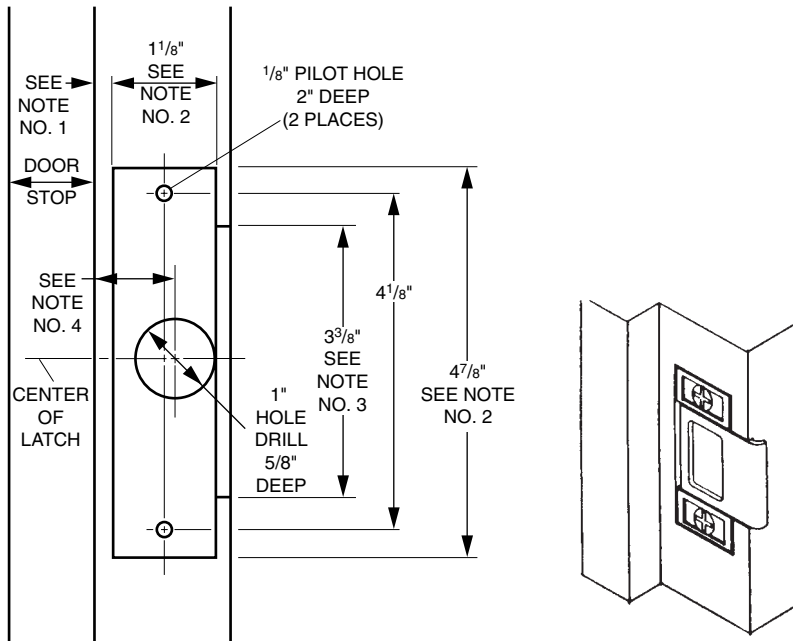

Figure 13.56 Jamb preparation and completed installation of Model 452 for a 1 $\frac{1}{4}$ -inch door. (M.A.G. Engineering and Mfg., Inc.)
1. For $1\frac{3}{4}$ -inch door, start the cutout $\frac{3}{16}$ inch away from the door stop; for $1\frac{1}{2}$ -inch door, start cutout on the edge of door stop (Fig. 13.56).